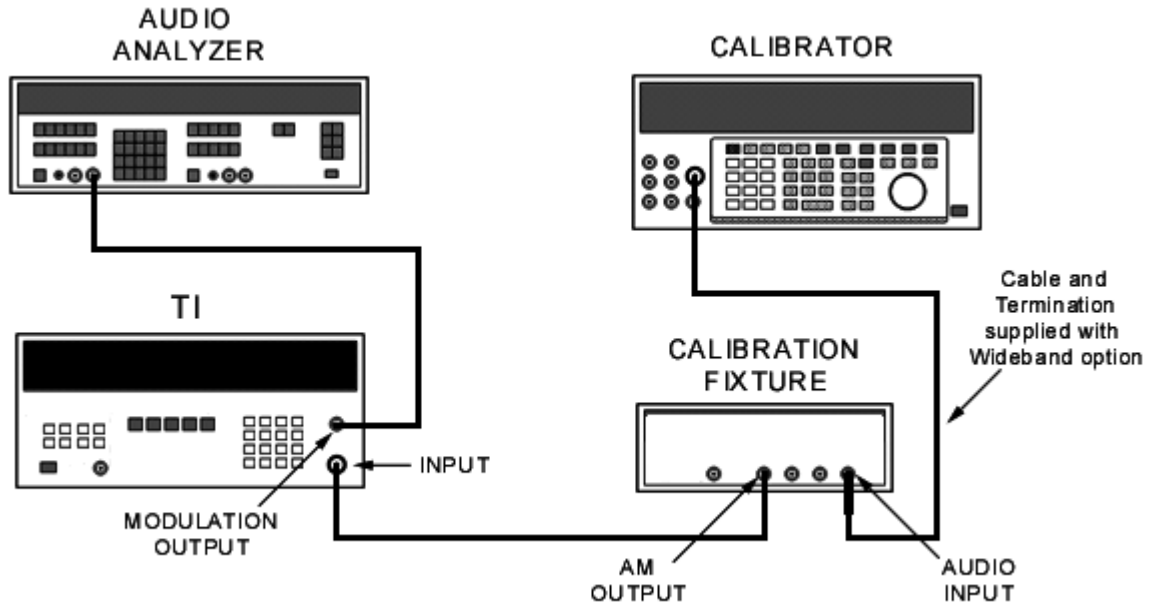

Figure 2. AM distortion - equipment setup.
- (1) Connect equipment as shown in figure 2.
- (2) Set calibrator for a wideband output of 20 kHz at an amplitude of 175 mV.
- (3) Position TI controls as listed in (a) through (c) below:
- (4) Adjust calibrator wideband output for a 50 percent AM indication on TI display.
- (5) Set audio analyzer to measure signal distortion with 80 kHz low-pass filtering. Distortion will be 0.3 percent or less.
- (6) Increase calibrator wideband output for a 95 percent AM indication on TI display. Measured distortion will be 0.6 percent or less.
- (7) Adjust calibrator frequency to 20 Hz and adjust wideband output to maintain 95 percent AM indication on TI display. Measured distortion will be 0.6 percent or less.
- (8) Decrease calibrator wideband output for a 50 percent AM indication on TI display. Measured distortion will be 0.3 percent or less.
- (1) Connect equipment as shown in figure 2, except connect calibration fixture **FM ÷ 4 OUTPUT** to **TI INPUT**.
- (2) Position TI controls as listed in (a) through (c) below:
- (3) Set calibrator for a wideband output frequency of 100 kHz at an amplitude of 370 mV.
- (4) Adjust calibrator output for a 100 kHz indication on TI display.
- (5) Measure distortion on audio analyzer with all filters off. If audio analyzer does not indicate 0.1 percent or less distortion, perform **b** below.
- (6) Adjust calibrator frequency to 10 kHz and output level for TI display equal to 100 kHz times calibration factor recorded in a **15 a** (2). (For example, if calibration factor in **15 a** (2) is 100.4 percent, set output level for display of 100.4 kHz.)
- (7) Adjust calibrator to frequencies listed in table 4. TI display will indicate within limits specified.